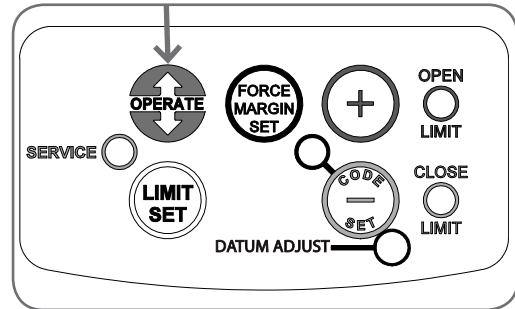

Fig. 28
- Press the OPERATE button to open the door (**Fig. 28**).
- Press the OPERATE button to close the door (**Fig. 28**).